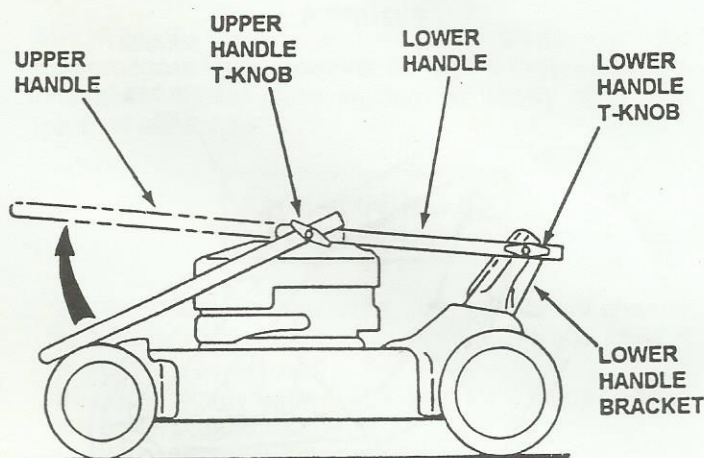

FIGURE 2
STEP 2: Remove and discard cardboard from between all handles. Raise upper handle until it is in line and seats into lower handle. Securely tighten upper handle T-Knobs on both sides. See Figure 2.